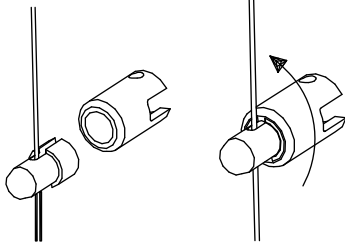

Figure 15
- A. Slide the cable balance bullet over cable (Fig. 15)
- B. Screw down cable balance sleeve onto the bullet. (Fig. 15)